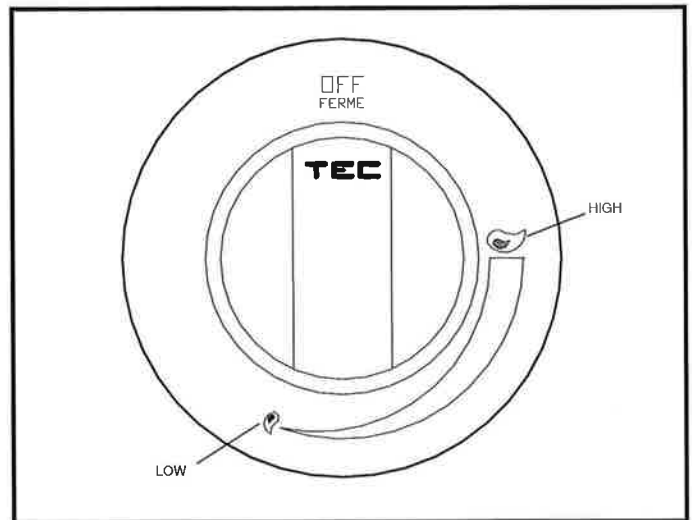

Figure 7. Burner Control Knob
1. Insure that the Burner Output Knob is in the OFF position. (See Figure 7, Page 9)
3. Depress and rotate the Burner Output Knob to HIGH. (See Figure 7, Page 9)